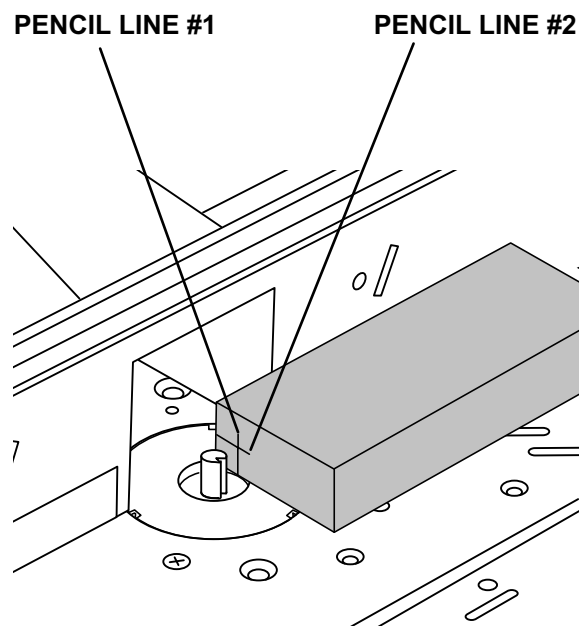

Figure 32
1. At the end of the board, use a soft pencil to mark line #1. This indicates the depth of the cut. See Figure 32.
3. At the end of the board where the cut will occur, use a soft pencil to mark line #1. This indicates the depth of the cut (how much wood to be removed). Then mark another line #2, indicating the height of the tenon. See Figure 32, page 32.